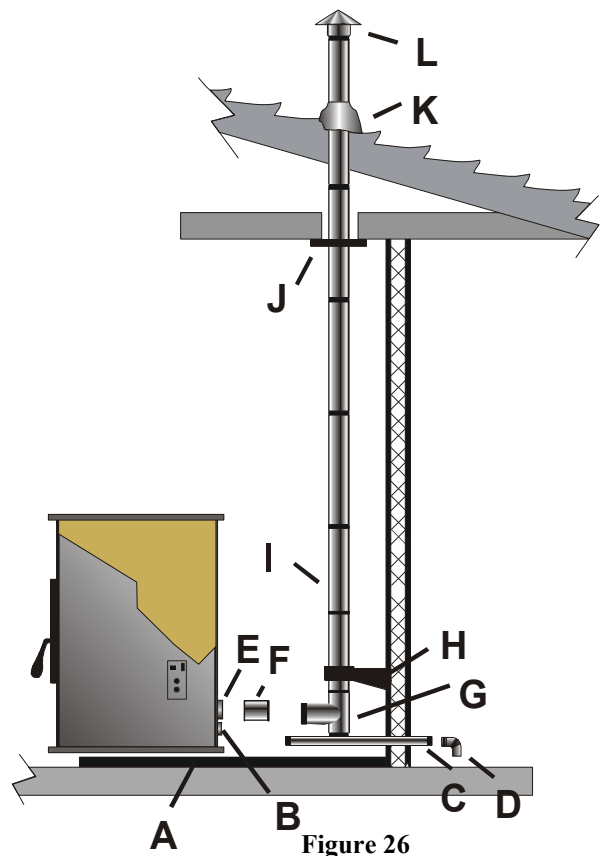

Figure 26
-  The stove must have a permanent outside air source with a ¼ inch screen over the inlet. Figure 26, (B, C & D)
-  Chimney/PL Vent must be 3" or 4" PL Vent and must extend a minimum of 36" above the roofline of the mobile home and must be installed using a UL / ULC listed ceiling fire stop (J), figure 26, and rain cap (L), figure 26.